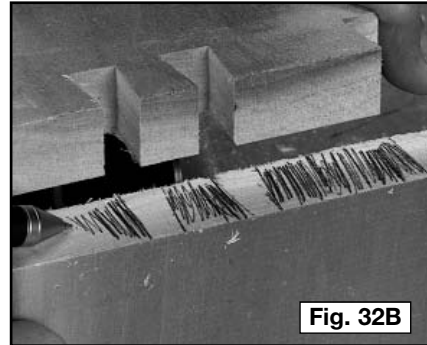

Fig. 32B
Step 3 - Shade in the areas on the end of the pin board where the tails will be (Fig. 32B).